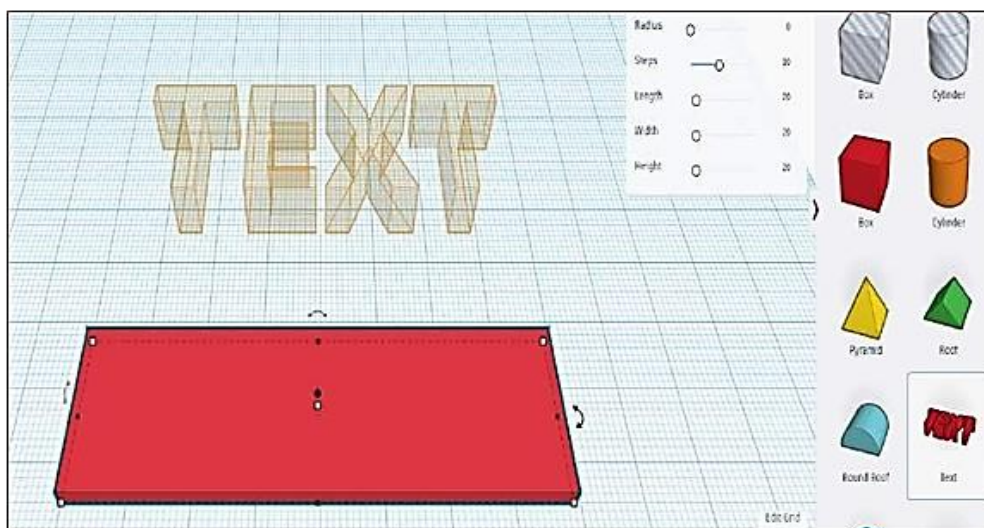

Fig. 4.15: Dragging Text into Workplane
4. Click and drag the Text shape on to the Work plane (Fig. 4.15).